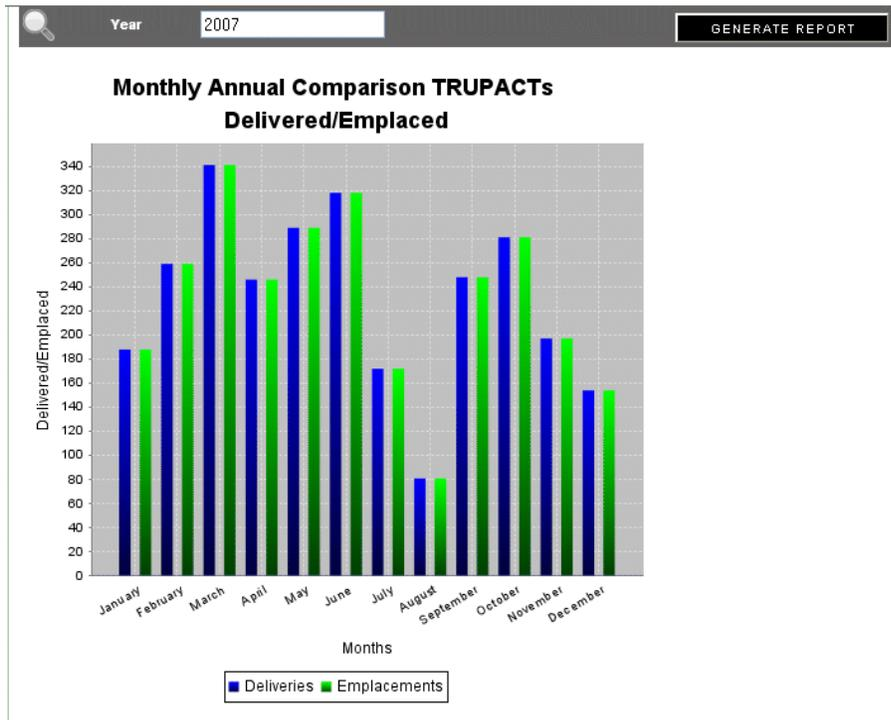

Figure 6-8 - Monthly Annual Emplacement Comparison Graph
6.4.1 Select the **Year** as shown in Figure 6-8.
6.4.2 Select the **Generate Report** button as shown in Figure 6-8